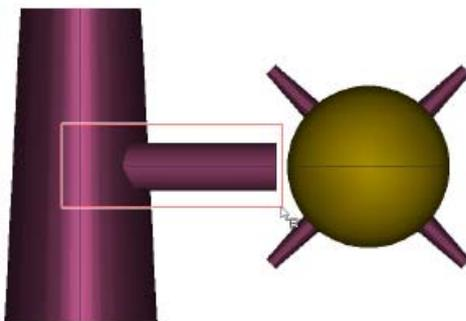

Figure 3.6: Selection of the pylon quilts can be accomplished by using a selection box in conjunction with the Shift key.
- 3、 放大吊舱区域，在吊舱 quilts 周边画出一个选择箱(*Figure 3.6*).